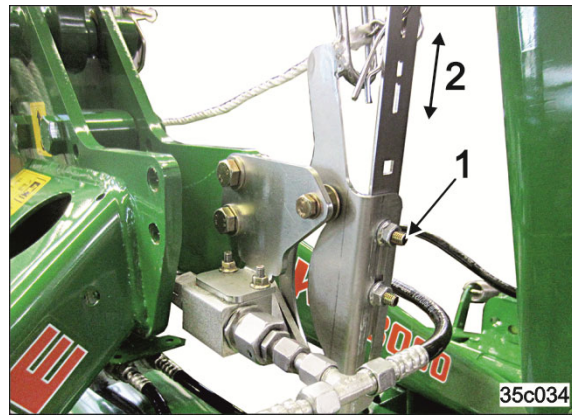

Fig. 133
1. Unscrew the nuts (Fig. 133/1).
2. Put the actuation hooks into the desired position (Fig. 133/2), so that it is possible to lift with the universal joint shaft running.
3. Tighten the nuts (Fig. 133/1).